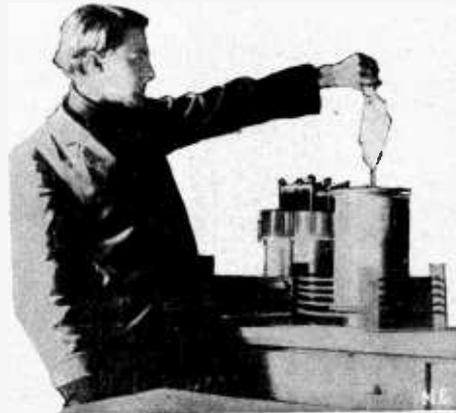
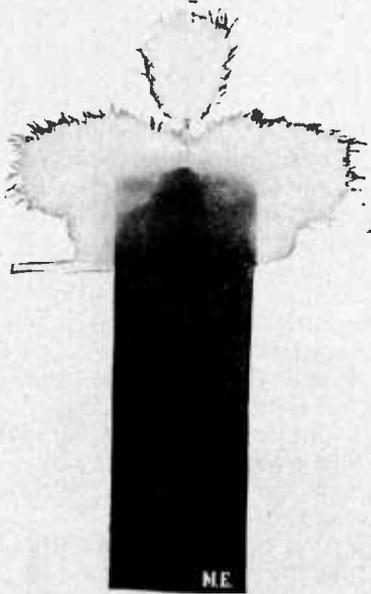

Fig. 3
Fig. 4
other gases at different pressures. Also if a lamp is connected with one turn of wire, the turn being about eight inches in diameter, and the whole set on the top of the Tesla secondary the lamp will at first show the pearly Geissler effect and then the filaments will grow red and become brighter until they are white. Fig. 3 shows a person taking an eight inch spark from the Tesla coil. The only precaution in this case is to have a metal piece in the hand so that the current will jump to the metal and not to the hand. Severe burns are produced if the spark jumps directly to the hand. The Tesla coil in the act of discharging is shown in Fig. 4. The light of the discharge is highly actinic and is therefore easily photographed.
-Fig. 3-
ometer coils (fixed coils). Each coil has two aerials. The inner movable coil is connected to the sending or receiving apparatus and by its means we are able to send or receive at any angle by turning it about its centre. The new method is seen in Fig. 3, and here the instrument carries four fixed coils